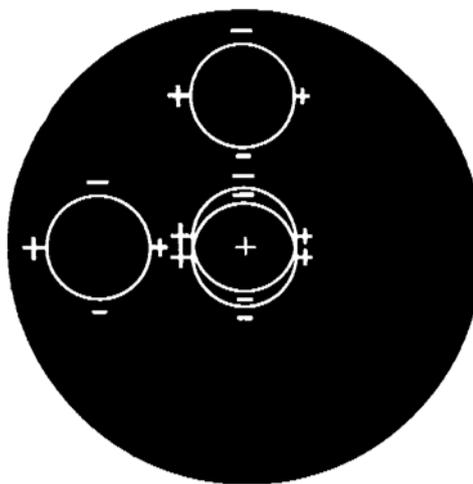
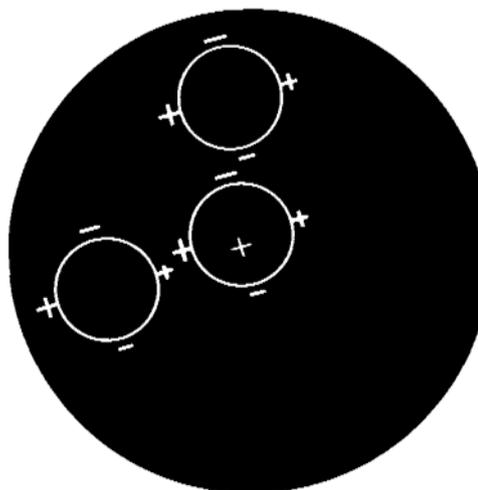
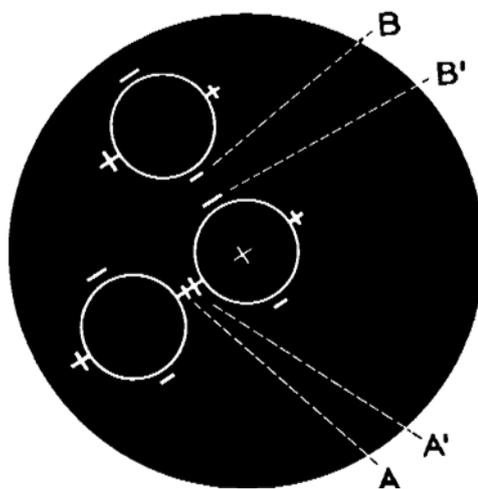

Figure 4
Figure 5
Figure 6
2. To clear these images, use focusing knob (7).
3. Place the black cross near the center of the double circle (Fig. 4) by swiveling the instrument slightly and making fine adjustments of the elevating knob. (This doubled circle is called the focusing circle).
It is important that the cross in the eyepiece be near the center of the focusing circle. At this point, the optic axis of the instrument will coincide with the visual axis of the patient's eye. At the same time, the image of the patient's eye will be directly before him. These conditions constitute the "triple alignment." In the Reichert Keratometer, the focusing does not depend solely upon the apparent sharpness of the target image, but is accomplished more precisely by coincidence of overlapped focusing circles, appearing single. When the instrument is out of focus, the central focusing circle and the plus and minus signs are doubled, as shown in Fig. 4. But when the exact focus is located, (by turning the focusing knob) the focusing circle will appear single and sharp, as illustrated in Fig. 5 or 6.
Two plus signs, A and A', (Fig. 6), will be seen between the left-hand and central focusing circles in the instrument. The axis of the cylinder can be found easily when the tips of these plus signs just touch, as
1. Turn the horizontal measuring drum until the plus signs are barely separated, as in Fig. 5 or 6. If the horizontal lines of the plus sign appear to be continuous and unbroken, as in Fig. 6, the instrument is set at the position of the axis of the astigmatism. If the horizontal lines appear discontinuous, as shown in Fig. 5, the Keratometer is not at the cylinder axis.
2. Grasp the Keratometer at the rotating grip (3), and rotate the entire tube while looking into the eyepiece. Using a somewhat trial and error approach, a position is reached at which the horizontal lines of the plus signs will appear continuous and unbroken, as shown in Fig. 6.
If it is not at the midpoint, a slight rotation of the instrument one way or the other using the rotating grip (3) will move the line to the midpoint. The double plus should next be focused, becoming single. The two horizontal lines then become continuous. This extra check on the corneal axis is particularly valuable in low astigmatic errors. When these horizontal white lines of the plus signs appear tip to tip and continuous, as shown in Fig. 6, the Keratometer is set to indicate the axis of astigmatism.
1. Turn the right-hand vertical measuring drum (5) until the short minus sign B and the longer minus sign B' (Fig. 6) are superimposed. The scale on the right-hand drum then indicates the actual dioptric power of the corneal curvature in the vertical or near-vertical meridian.